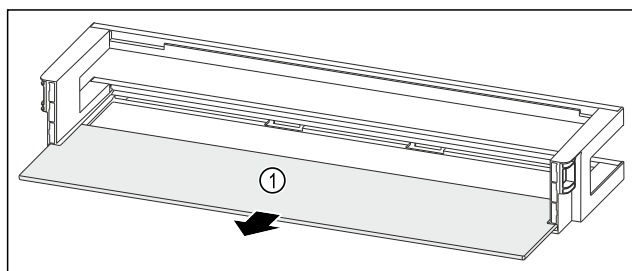

Fig. 175 Door rack with shelf
- ▶ Remove the shelf Fig. 175 (1).